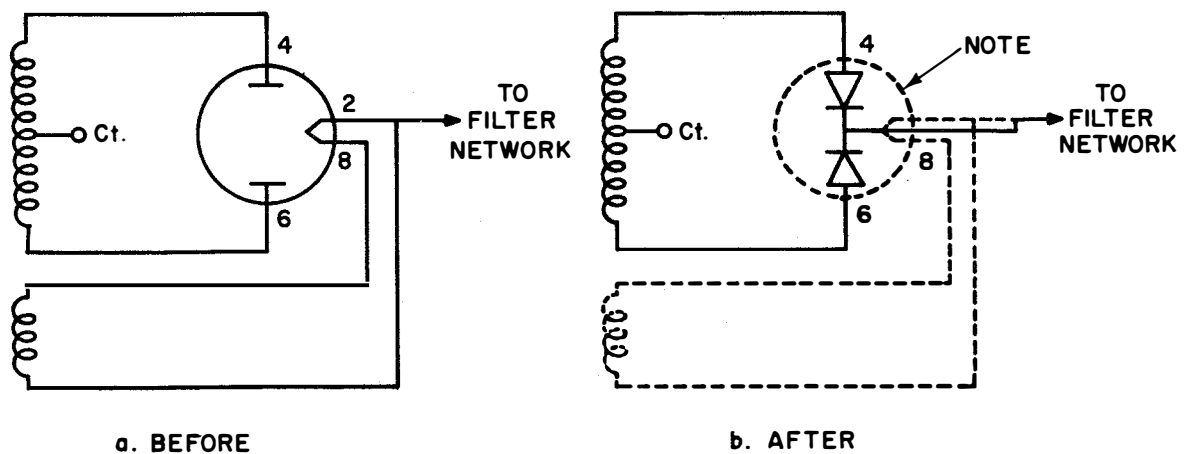

Figure 3
(1) Change "V-3002" to read "CR-3002" and "5R4WGB" to read "1N1239."
(2) Change pin 6 to read pin 8; change pin 8 to read pin 6.
(4) Change tube diagram to diode diagram (see figure 3).
(5) Change pin 2 to read "pin 8".
(1) Change "V-3001" to read "CR-3001", and "5R4WGB" to read "1N1239."
(3) Change Tube diagram to a "Diode diagram" (see figure 3).
(1) Change "V-3003" to read "CR-3003", and "5R4WGB" to read "1N1239."
(3) Change "Tube diagram" to a "Diode diagram" (see figure 3).
(1) Change "CR-3001" to read "CR-3004". Above CR-3004, enter "Diode Assembly"; near each illustrated diode enter "1N249RA".
(2) Change "V-3001" to read "CR-3001", "V-3002" to read "CR-3002" and "V-3003" to read "CR-3003", change "5R4WGB" to read "1N1239".
(4) Change the three Tube diagrams to "Diode diagrams" (see figure 3).